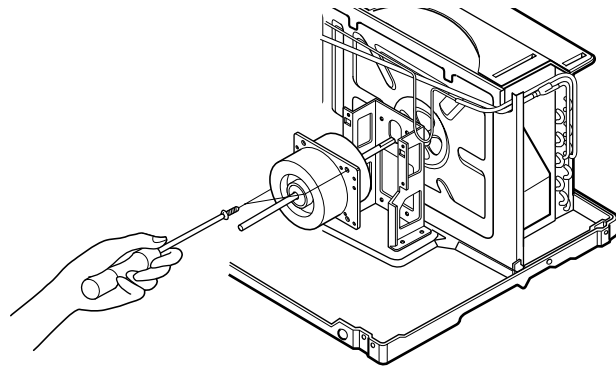

Figure 7
7. Remove the 2 screws which fasten the motor from the mount motor. (See Figure 7)
9. Re-install the components by referring to the removal procedure, above.(See Figure 7)